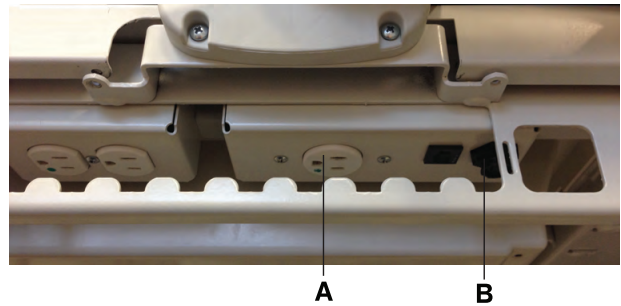

Figure 1-35: Auxiliary mattress connector outlet
2. Connect the integration cable from the support surface to the auxiliary mattress connector (B) (Figure 1-35 on page 1-53).
3. Plug the support surface power cord into the auxiliary mattress connector outlet (A) (Figure 1-35 on page 1-53).